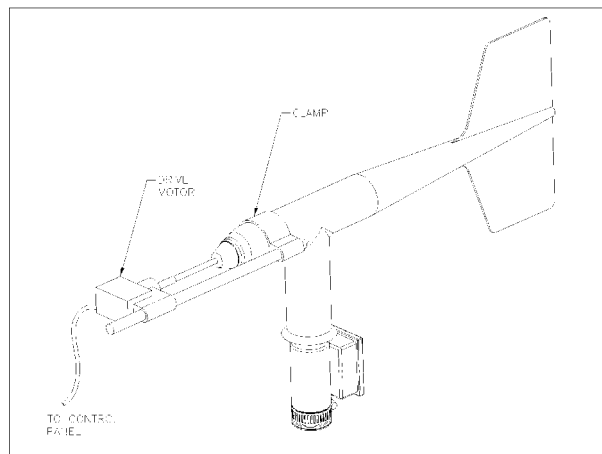

Figure 1-26. Wind Monitor – Wind Speed Test
- b. Connect Anemometer Drive to the Wind Monitor drive shaft (see Figure 1-26).